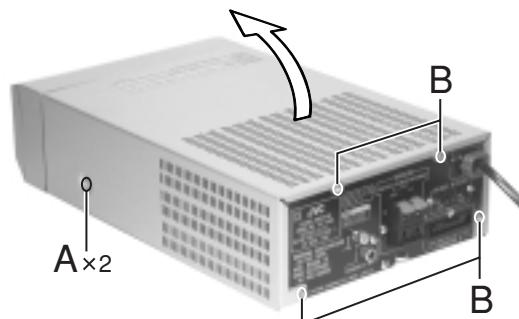

Fig. 1
■ Removing the top cover (See Fig.1)